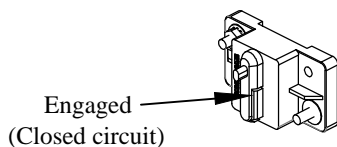

Figure 10: Engage circuit breaker.
6. **Connect** the 4ga power cable to the positive side of the battery (Customer Connection Point on the driver seat pedestal on Ford Transit) or manually **Engage** the circuit breaker (Figure 10).